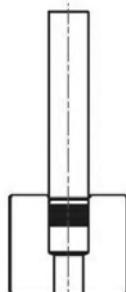

Fig. 3
- The pin can now be pressed in until the top of the pin is flush with the top surface of the sleeve. Corresponding approximate values for stroke  $S$ , as well as the dimension  $X$  can be referred from the dimensional sheets (Fig. 3, 4 and 5).